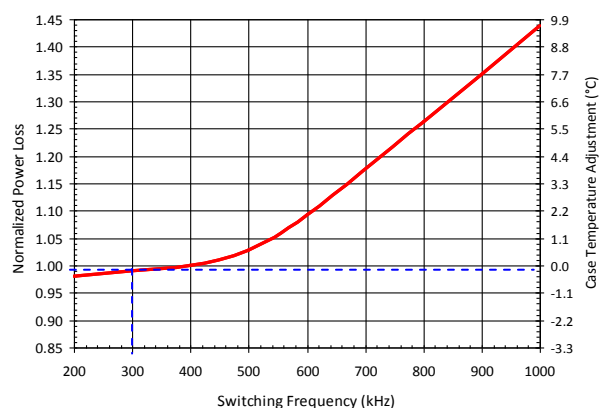

Figure 13: Normalized Power Loss vs. Switching Frequency
- 4) Determine the switching frequency normalizing factor with $f_{SW} = 300kHz$, which is 0.99 based on the dashed lines in Figure 13.
- 11) Determine the case temperature with $f_{SW} = 300kHz$, which is -0.2° based on the dashed lines in Figure 13.